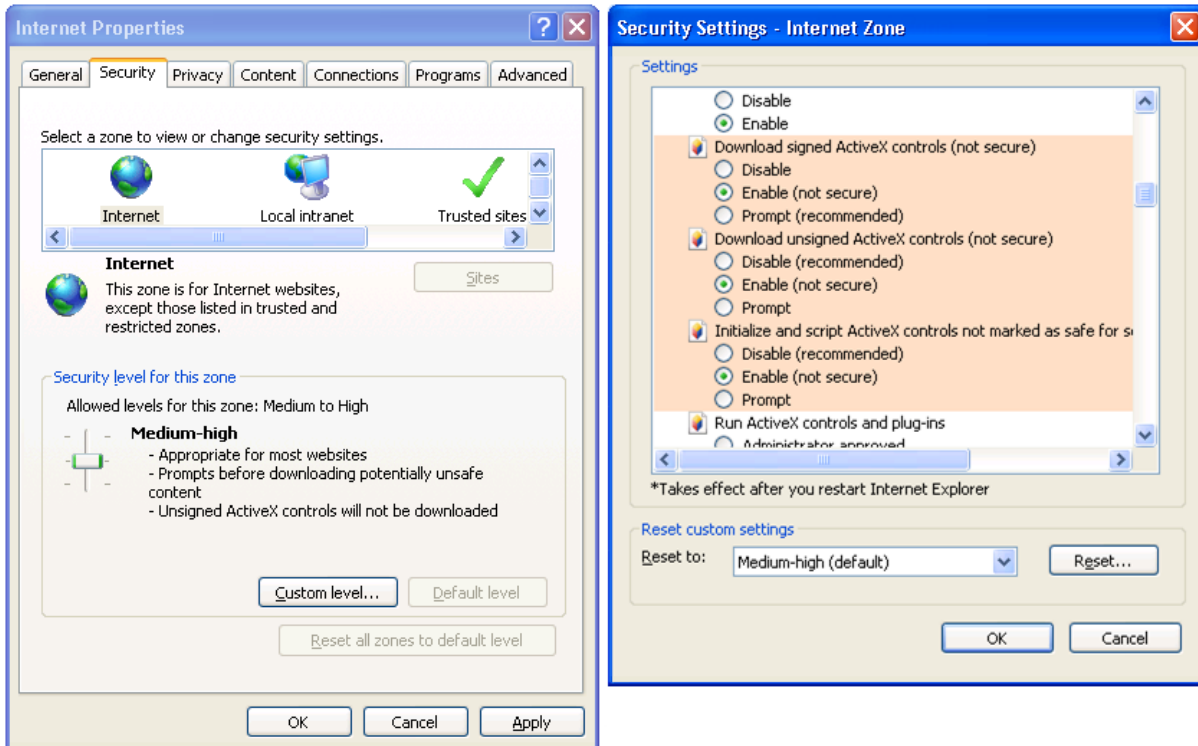

Figure 4-2
3. If you can't download the ActiveX file, modify your browser settings as follows (Figure 4-2).